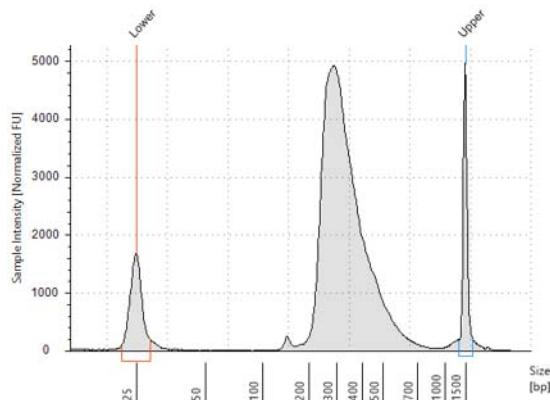
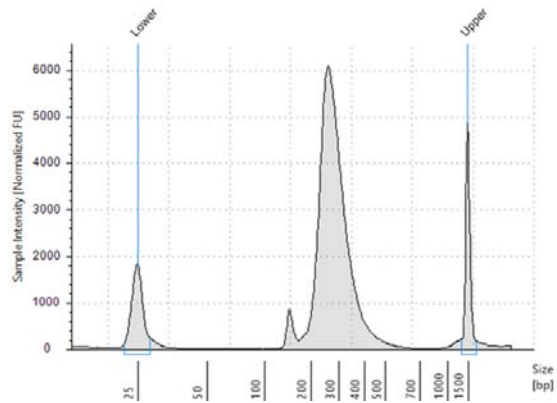

Figure 2 Pre-capture library prepared from high-quality RNA sample (Human Reference Total RNA) analyzed using a D1000 ScreenTape.
Figure 3 Pre-capture library prepared from a typical FFPE RNA sample analyzed using a D1000 ScreenTape.
- 3 Verify that the electropherogram shows the expected DNA fragment size peak position (see Table 24 for guidelines). Sample TapeStation system electropherograms are shown for libraries prepared from high-quality RNA in Figure 2 and from FFPE RNA in Figure 3.